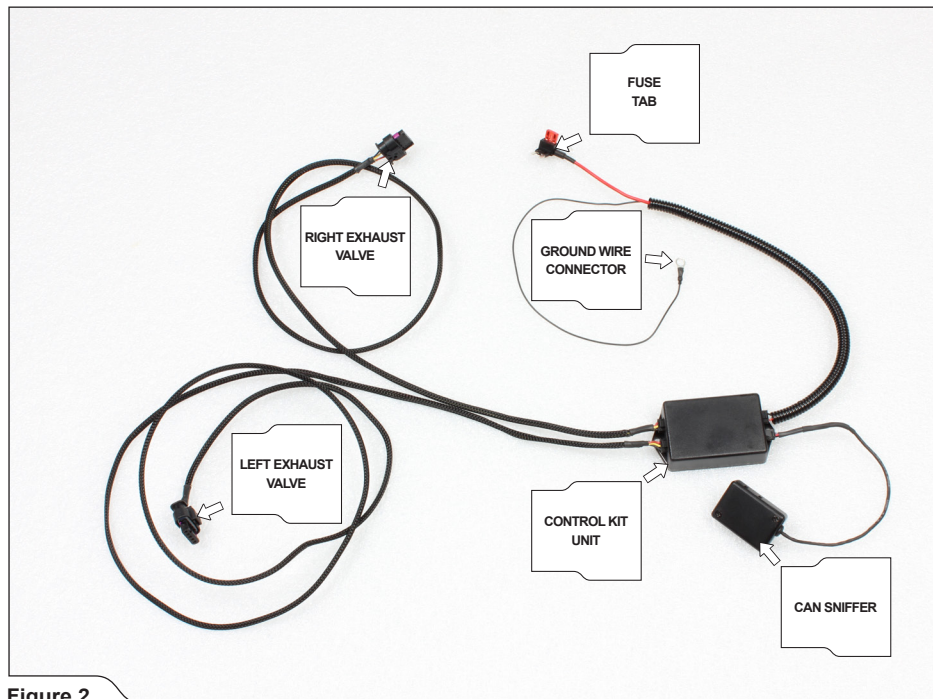

Figure 2
2. Control Kit and its components (**Figure 2**).